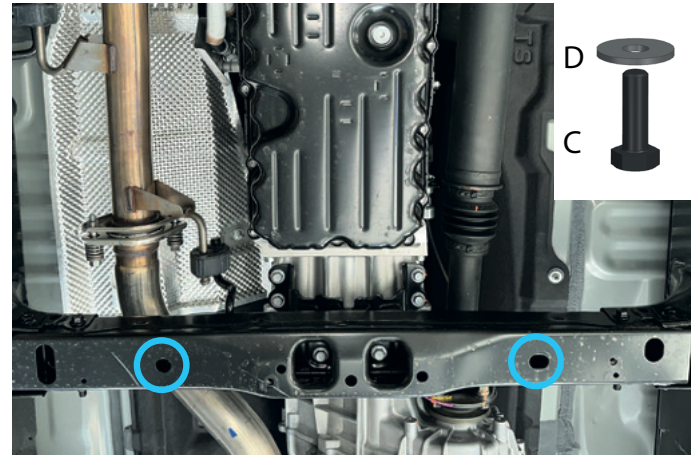

Fig. 11
11. Insert bolts M8x25 (item C) with washers 8 (item D) for 2-3 turns as shown in fig.11.